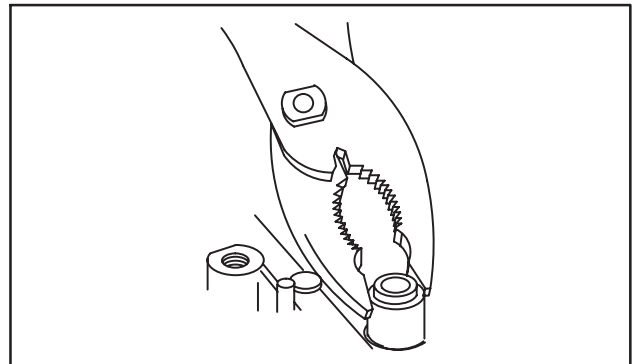

Fig. 11 – Remove Valve Stem Seal
2. Remove and discard intake valve stem seals, Fig. 11.